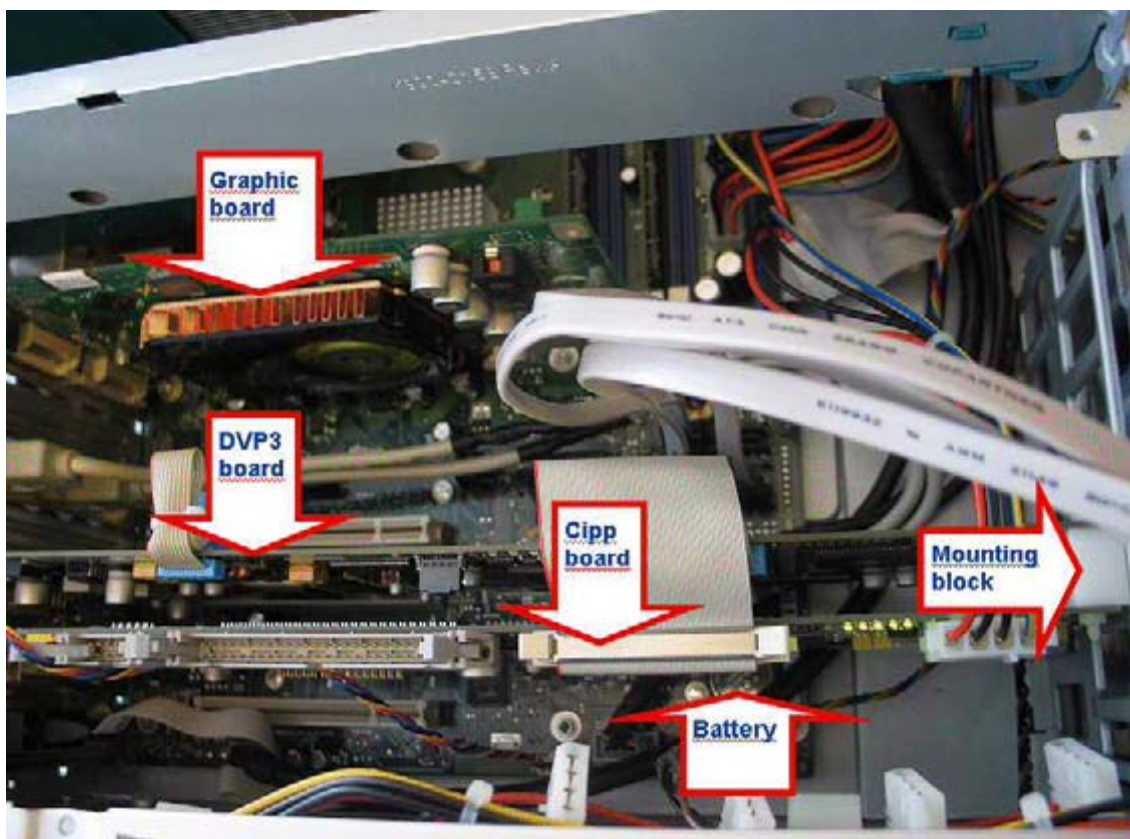

Fig. 51: Components M450_
6. Remove the mounting block (mounting block/ Fig. 51 / p. 82)